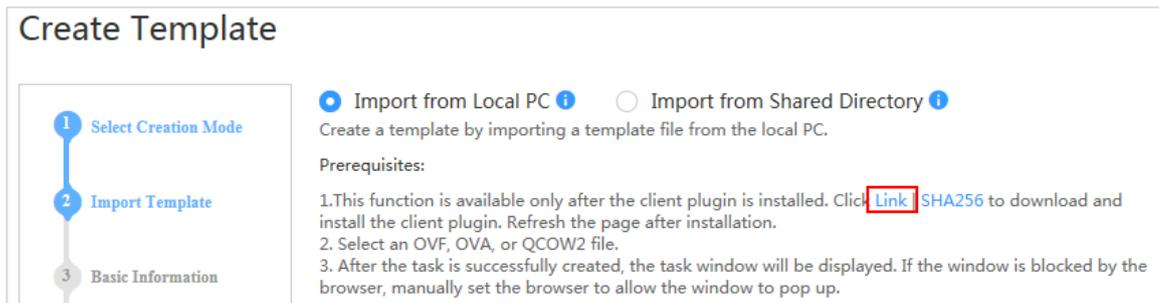

Figure 5-7 Installing the plug-in
- In the dialog box for creating a template, click Link to download the plug-in and install it as prompted, as shown in Figure 5-7.